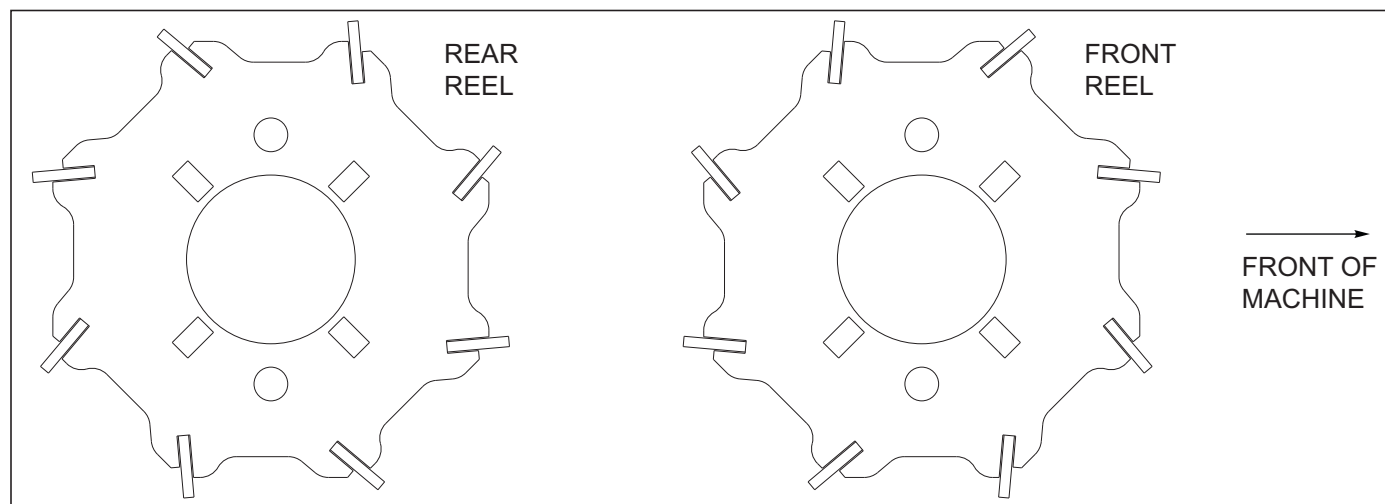

Figure 3-23: 2RS DBL Flat Reel Installation
6. Attach flat bar reels with front and rear reel angled blades as shown See Figure 3-23.